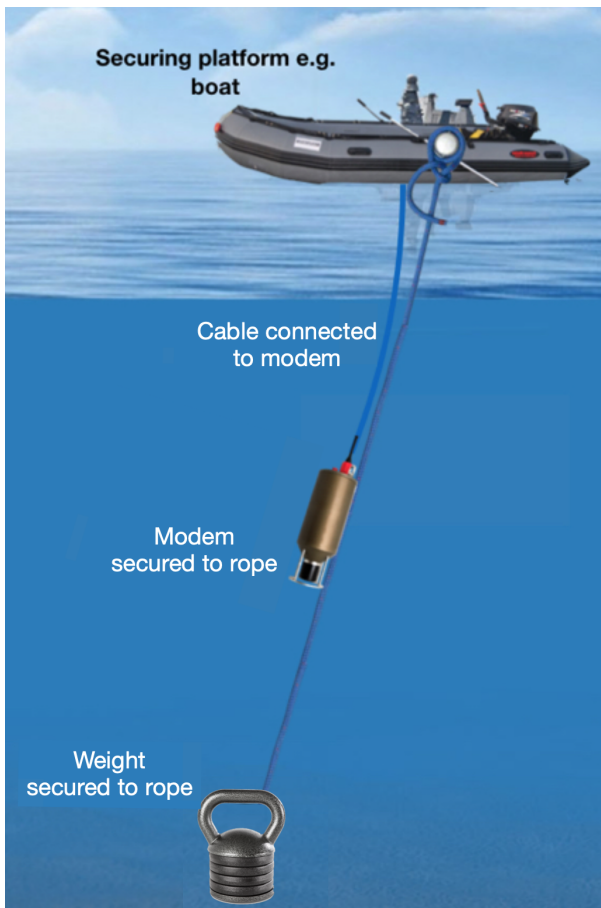

Figure 11. Recommended deployment diagram
4. Figure 11 shows a recommended deployment diagram using a weight and a rope.